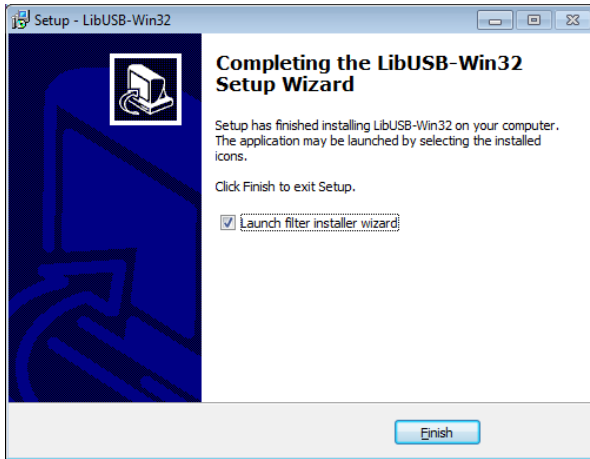

Figure 4.1.
2. Then run `libusb-win32-devel-filter-1.2.6.0.exe`, which can be found in the folder '`<grmon-ver>/share/grmon/`', where `<grmon-ver>` is the path to the extracted win32 or win64 folder from the the GRMON archive. This will install the `libusb` filter driver tools. Step through the installer dialog boxes as seen in Figure 4.1 until the last dialog. The `libusb-win32-devel-filter-1.2.6.0.exe` installation is compatible with both 64-bit and 32-bit Windows.